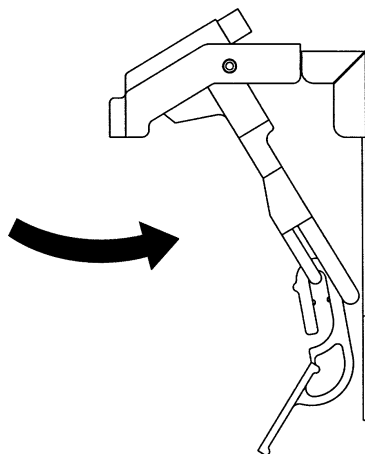

Fig. 10
- b) Allow the unit to cycle into the freeze mode. This occurs when the pump motor starts to supply water upwards, through the supply tube. After 1-2 minutes in freeze, move the bin switch paddle fully to the right. See Fig. 10.